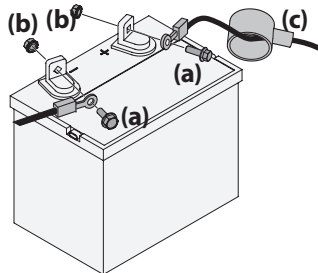

Figure 14
1. If present, remove the plastic cover from the positive battery cable. Attach the red connector to the positive battery terminal (+) using the bolt (a) and hex nut (b). See Figure 14.
2. If present, remove the plastic cover from the negative battery terminal and attach the black cable to the negative battery terminal (-) with the bolt (a) and hex nut (b). See Figure 14.